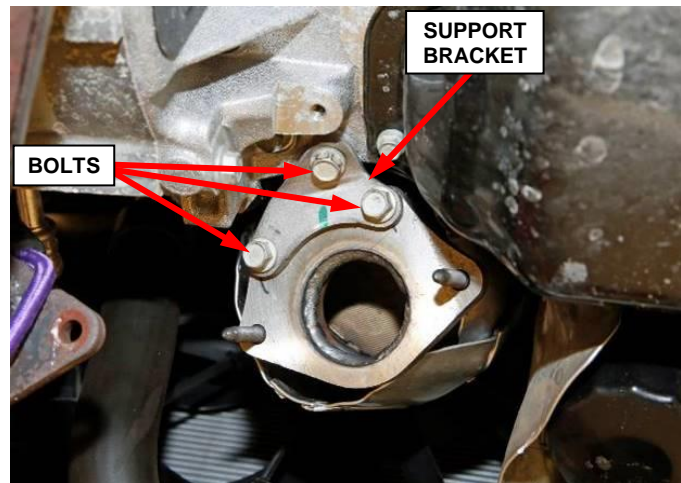

Figure 24 – Maniverter Outlet Bracket
42. Install the **NEW** catalytic converter lower support bracket to the engine oil pan using the bolt saved from the removal step. Do not tighten the bolt at this time (Figure 24).
43. Install two **NEW** bolts securing the lower support bracket to the catalytic converter. Tighten all three catalytic converter lower support bracket bolts to 20 N·m (15 ft. lbs.) (Figure 24).